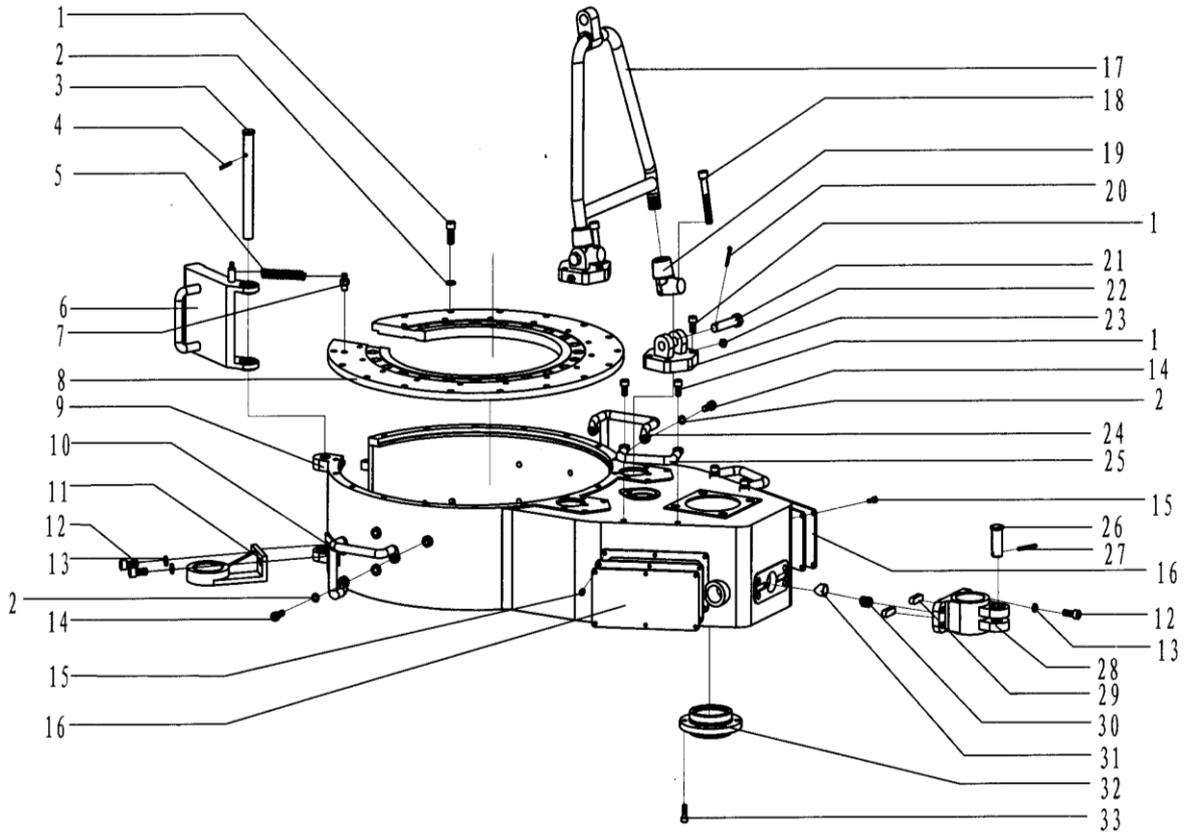
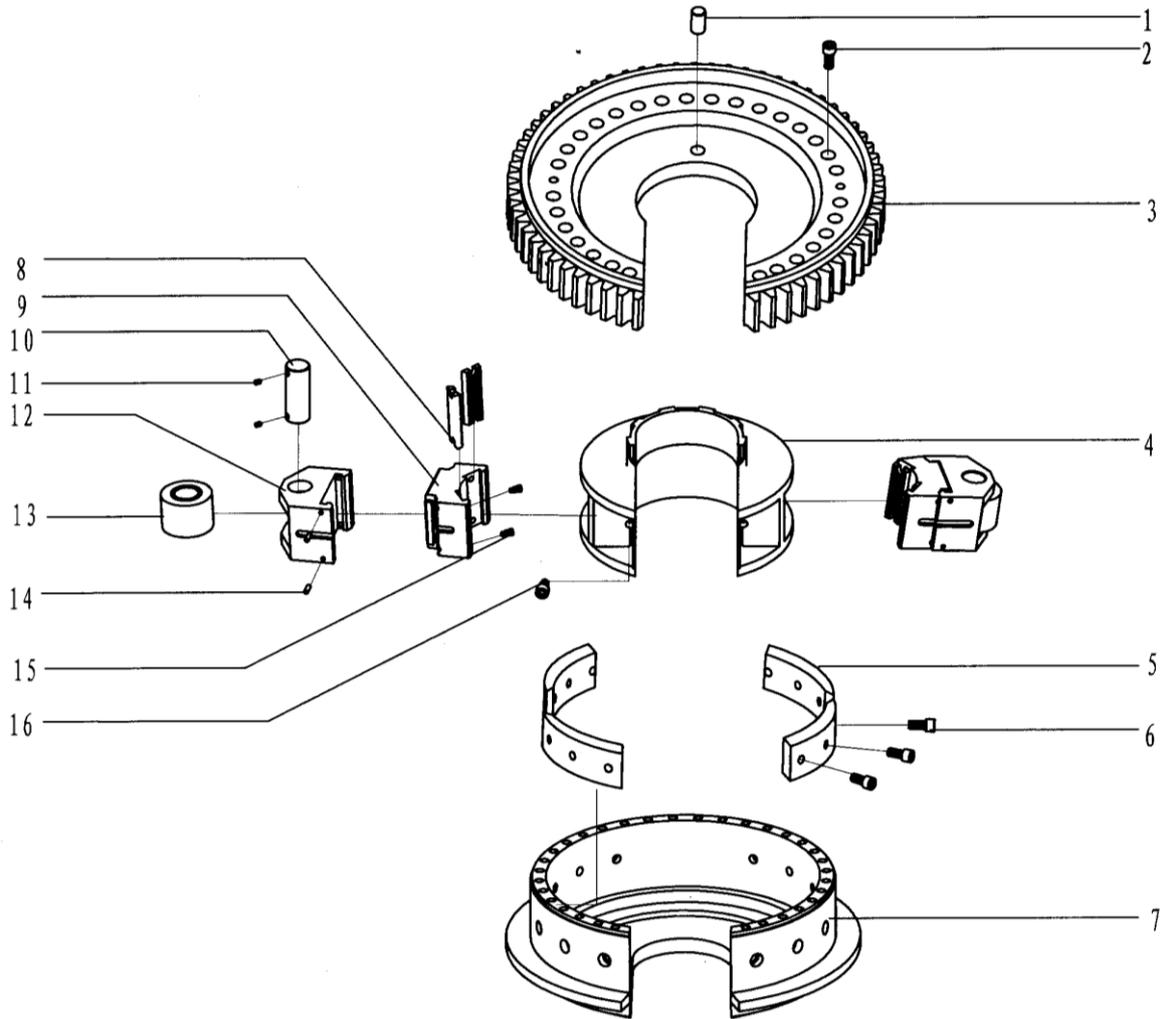

Fig3. Shell assembly and parts
Fig4. tong head assembly
Close the safety door(see Fig.3 and Fig.4) push up the valve core of flexible shaft, adjust the connector to suitable place, and fasten the connection head and connection plate 1, tighten the protective sleeve and hexagon nut. To ensure push-pull soft shaft and connecting head smooth connection by adjusting the position of connecting plate 1 and hexagonal nut. Operator can adjust the hexagon nut to control the height of valve core, ensure the height around 8.5mm. Close the safety door, observe whether the spool stroke suitable. Fasten the thin nut, prevent the flexible shaft loose.
7.2.1 Shell assembly and parts (Fig3. Table3)
7.2.2 Tong head assembly(Fig4. Table4)